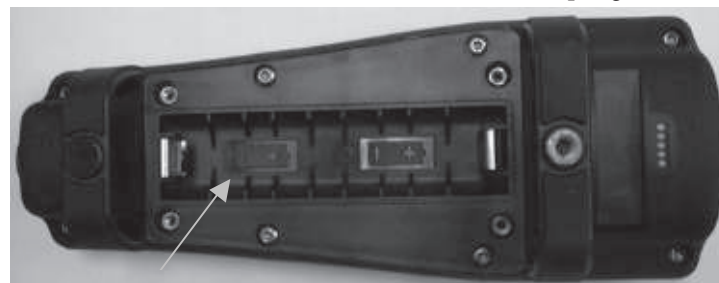

Figure 1. ProODO with battery cover removed. Notice battery symbols indicating polarities.
3. Remove the battery cover and install the new batteries, ensuring correct polarity alignment on the instrument or the removed cover (Figure 1).